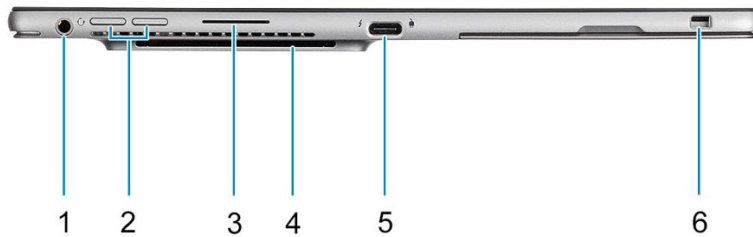

Figure 10. System Left Side.
2. Connect USB-C end of dongle to USB-C power port of MSD-V4L. Refer to Figure 10.